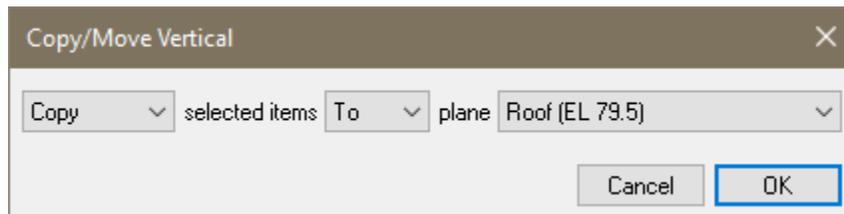

Figure 3-3
- Go to *Modify* → *Copy/Move* and click on the *Copy/Move Vertical*  icon. This will open up the *Copy - Move* window as shown in **FIGURE 3-3**.